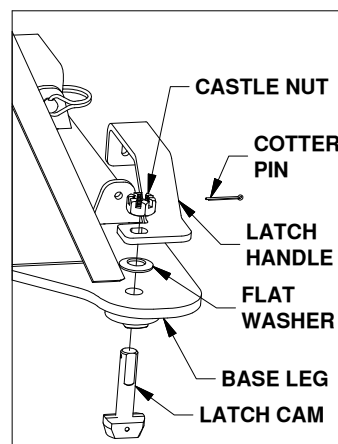

**Figure C2:**
- Prepare to adjust latch tension.** Once the base is in place, remove the cotter pins from each of the four castle nuts. Engage the cams with each attachment point by turning the latch handles back to their latched position, see Figure C2. If a handle will not turn easily, loosen the castle nut until the cam will freely turn and engage the attachment point.